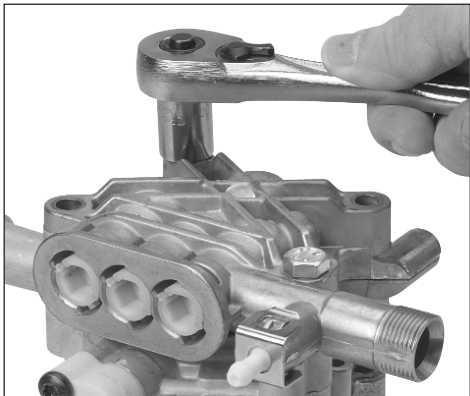

figure 11
1. Remove 4 pump head bolts using socket wrench. (figure 11)